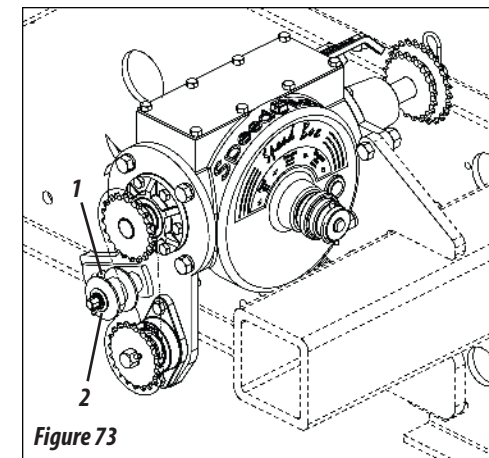

Figure 73
11 - Loosen the screw (1), slide the tensioner (2) up to the required tension. Then, tighten the nut, as shown in Figure 73.